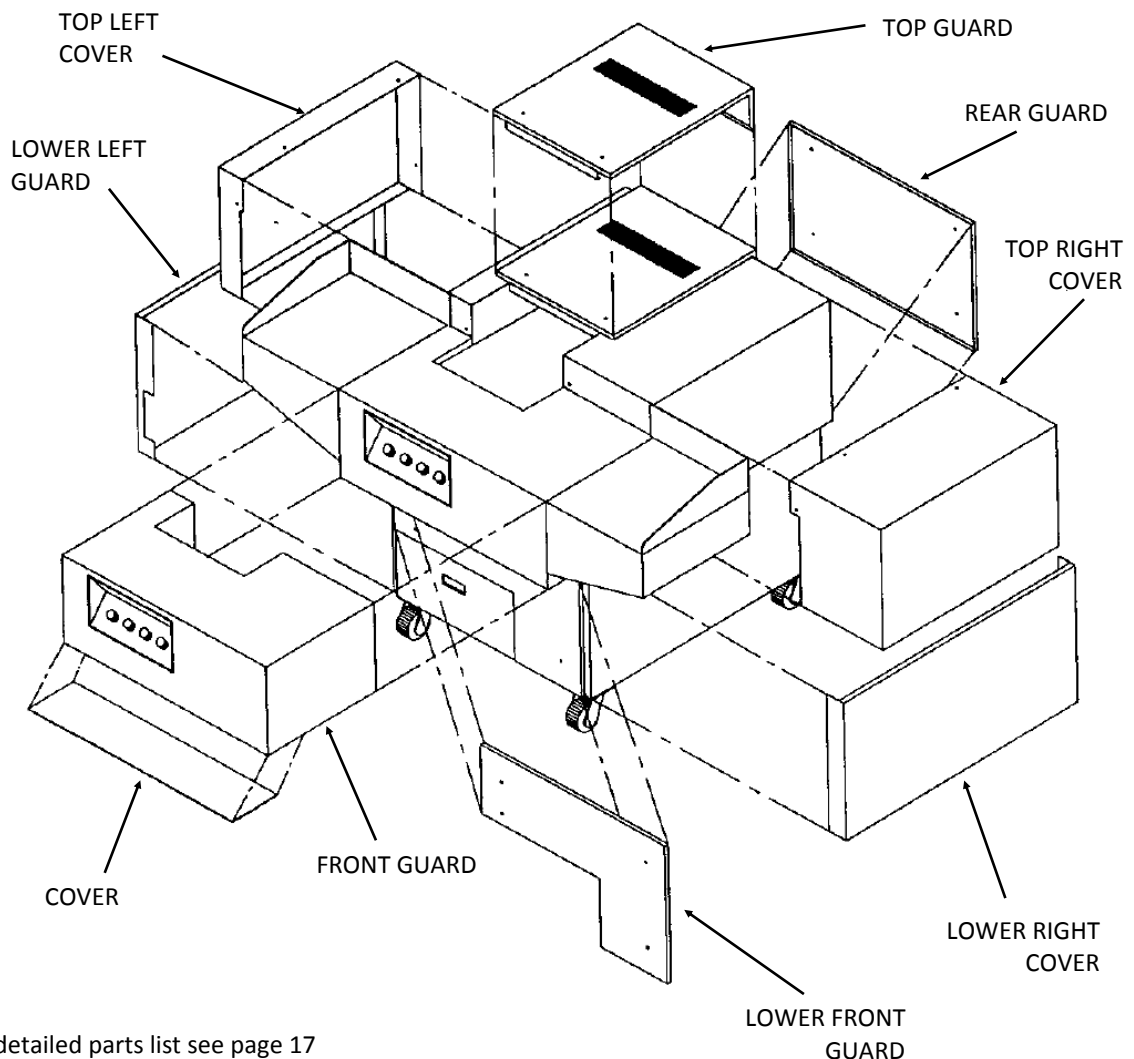

Figure 1
- Remove all guards (see figure 1, below) and inspect interior of machine for shipping damage. Check oil level in reducer. Add oil if necessary. See lubrication section on page 10.